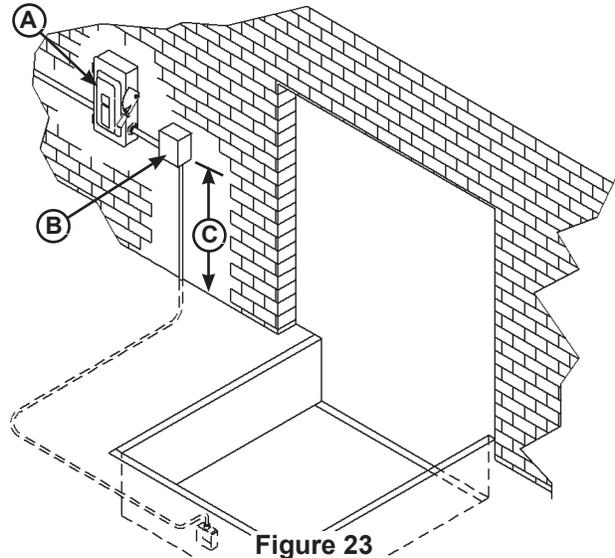

Figure 23
1. Mount the push-button control panel (B) so bottom of control panel-to-dock floor distance (C) is approximately 48 in. (1219 mm). See Figure 23.
2. Install electrical disconnect panel (A) if not already installed. Disconnect panel supplied by others.